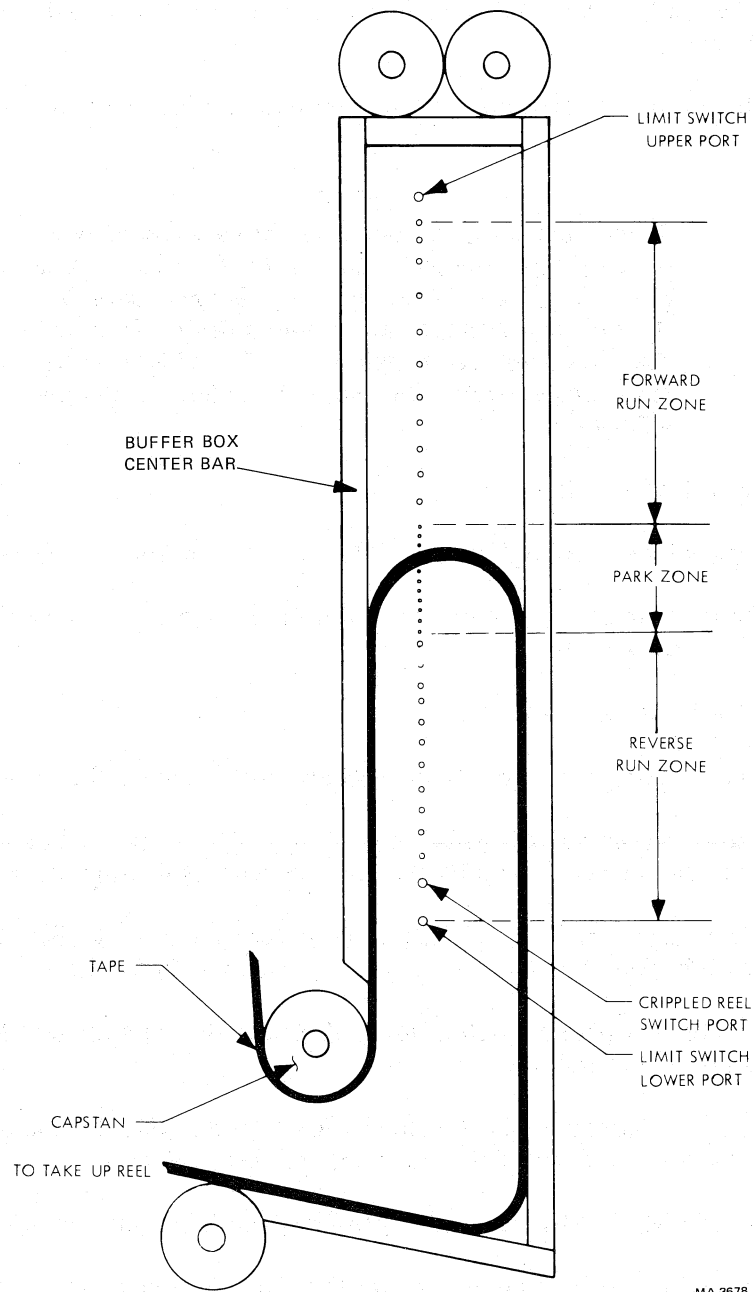

Figure 6-12 Buffer Column Park Zone (Take-up column shown)
8. Manually rotate the supply reel clockwise to put tape into the supply buffer column. Rotate the reel so the tape forms a loop and the end of the loop is located in the middle of the park zone. The park zone is defined as the series of thirteen small holes in the center of the buffer column, shown in Figure 6-12. Hold the reel and apply masking tape to the outer flange and the transport to prevent the loop from being pulled down the buffer column by the vacuum.